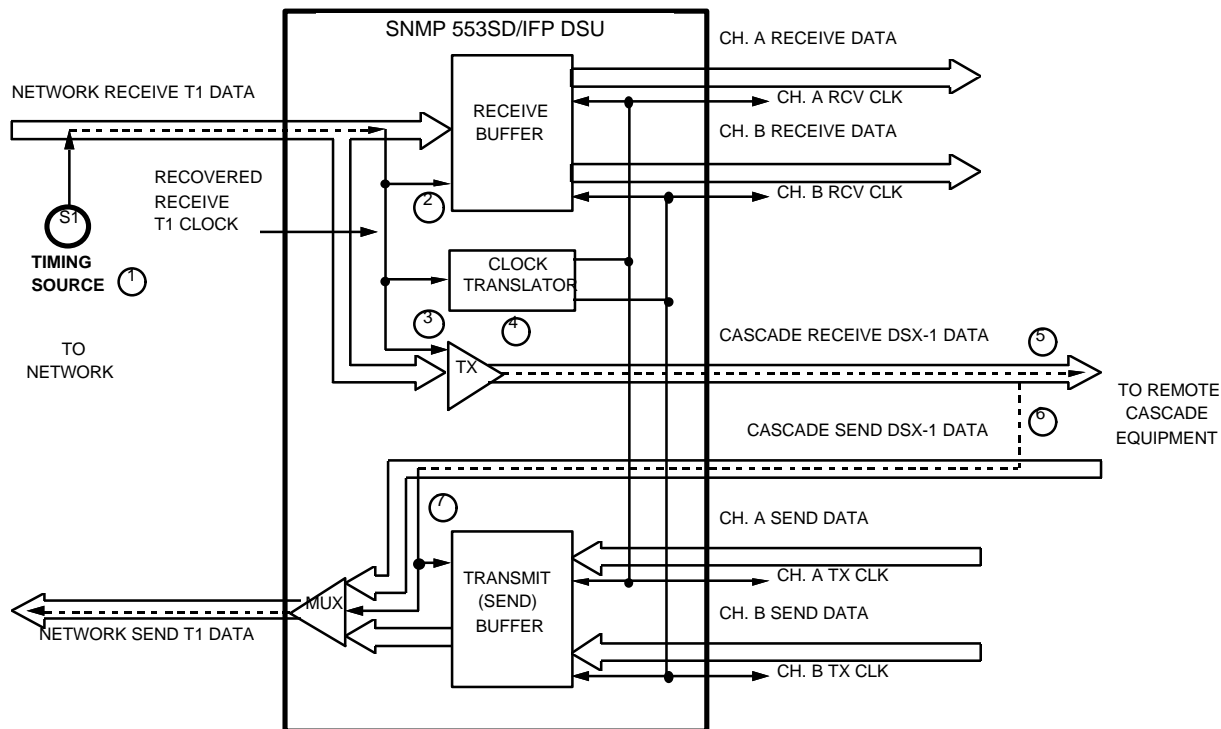

Figure C-8 Cascade Timing with a Network Timing Source
As illustrated in *Figure C-8*, when Cascade Timing is selected the network (or a device at the remote end) provides the timing source (1). The SNMP 553SD/IFP DSU recovers the receive T1 clock from the network receive T1 data and uses it to clock T1 data into the receive buffer (2) and into the cascade port transmitter (3). The DSU also translates (4) the receive T1 clock to provide the channel transmit and receive clock signals on the appropriate interface leads for each channel. The SNMP 553SD/IFP DSU extends the network receive T1 data stream to the remote equipment connected to the cascade port, which uses it as a timing reference (5) and loops it back to the local DSU (6). The local DSU recovers the receive T1 clock from the cascade receive DSX-1 (Digital Service Cross-connect, Level 1) data and uses it to multiplex the DSX-1 data with channel data and to provide the send timing source for T1 data output from the transmit buffer (7) to the network.